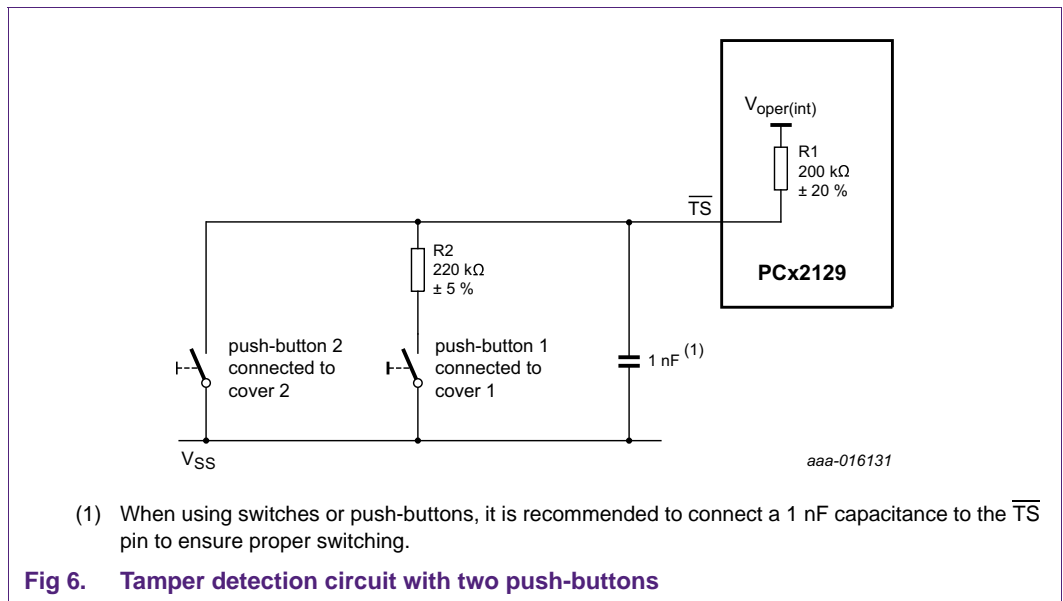

Fig 6. Tamper detection circuit with two push-buttons
Figure 6 shows the double tamper detection application.
- The timestamp detection is enabled by default (TSOFF = 0), see Figure 6